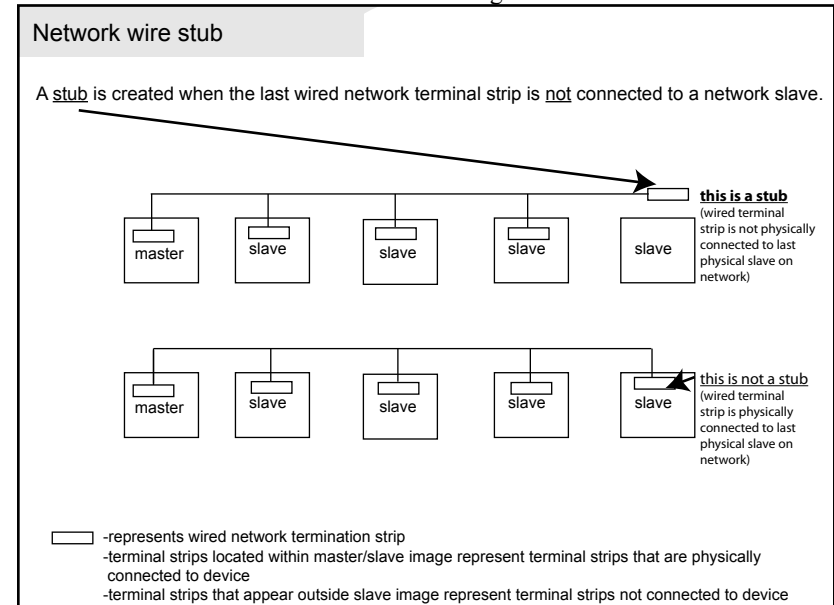

Figure 3.9
- \*\*A stub is created when the last wired network terminal strip is not connected to a network slave - figure 3.9.
- The network must not include any stubs. \*\*A stub is created when the last wired network terminal strip is not connected to a network slave - figure 3.9 - page 49.